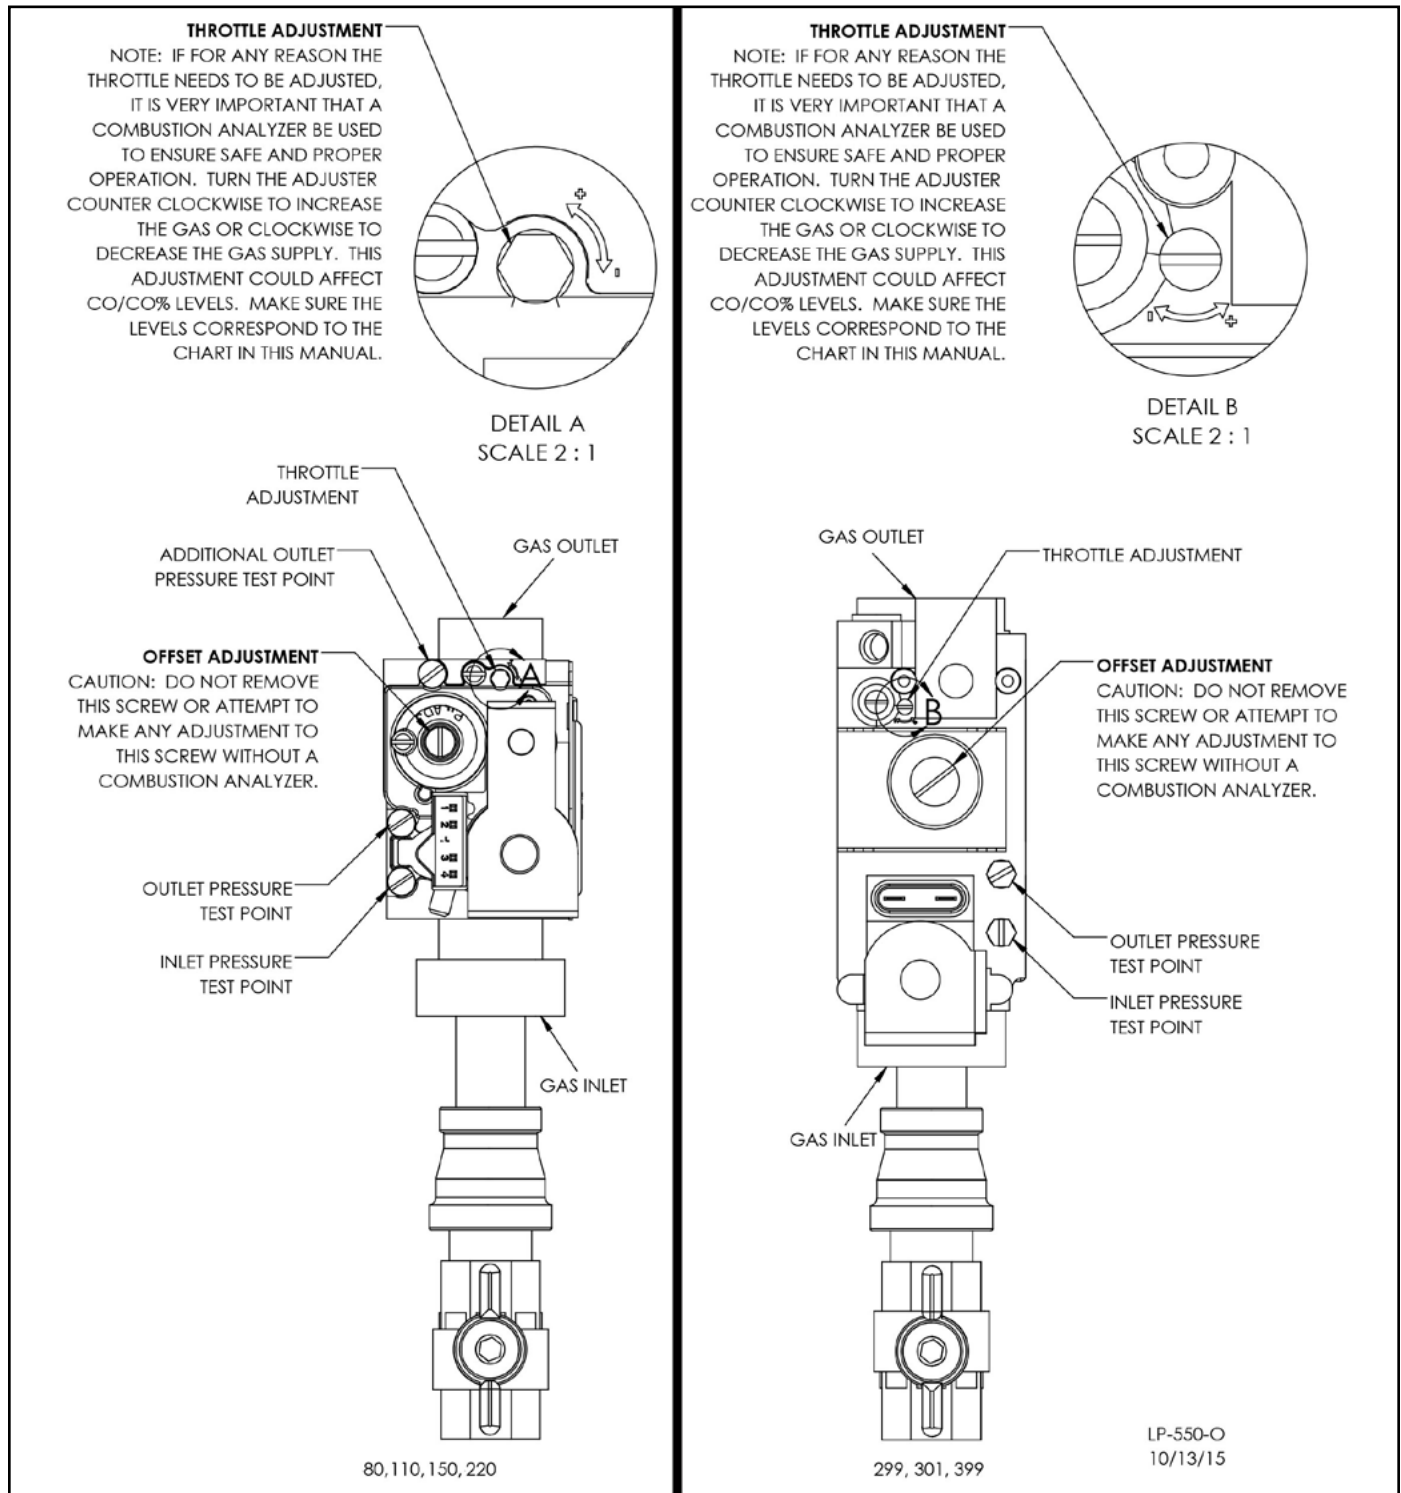

Figure 27 - Gas Valve
- Loosen the pressure tap with a small screwdriver. Refer to Figure 27 for location.
- Each unit is equipped with a needle valve that will accept a 5/16 ID hose to connect to a digital manometer or liquid gauge to measure incoming pressure from 0-35" w.c. See Figure 27.